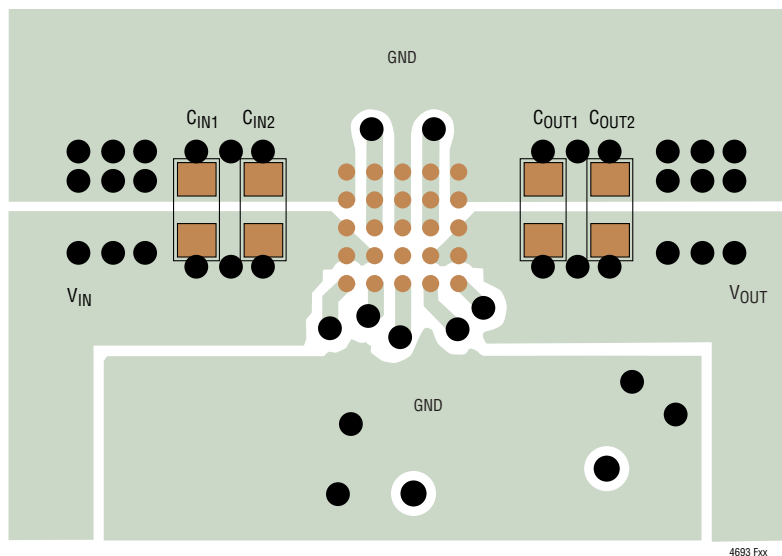

Figure 15. Recommended PCB Layout
- Figure 15 gives a good example of the recommended layout.